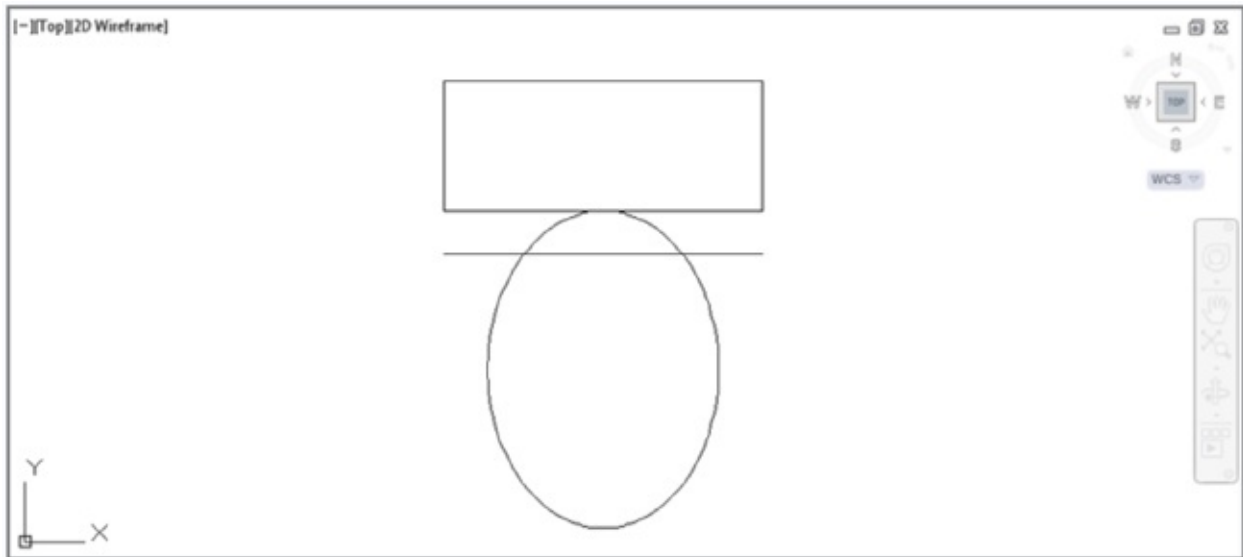

FIGURE 3.5 The line copied down
3. At the **Specify opposite corner:** prompt, pick a point above and to the right of the drawing, at or near coordinate 8'-3",6'-8" (246.0000,195.0000 for metric users). The toilet should be completely enclosed by the zoom window. You can also use the Zoom Realtime tool in conjunction with the Pan Realtime tool. The toilet enlarges to fill more of the screen. Your view should look similar to Figure 3.5.
4. Press ↵ to exit the Copy command. Your drawing should look like Figure 3.5.